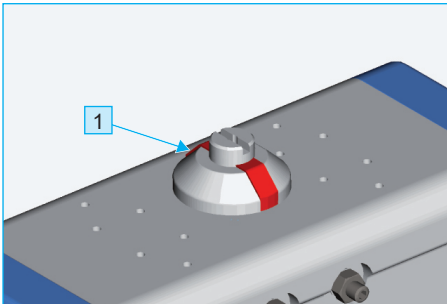

Fig. 3-9 Operating and display elements of the rotary actuator actubar
- Fig. 3-9 indicates the closed position
- Fig. 3-9 indicates the open position